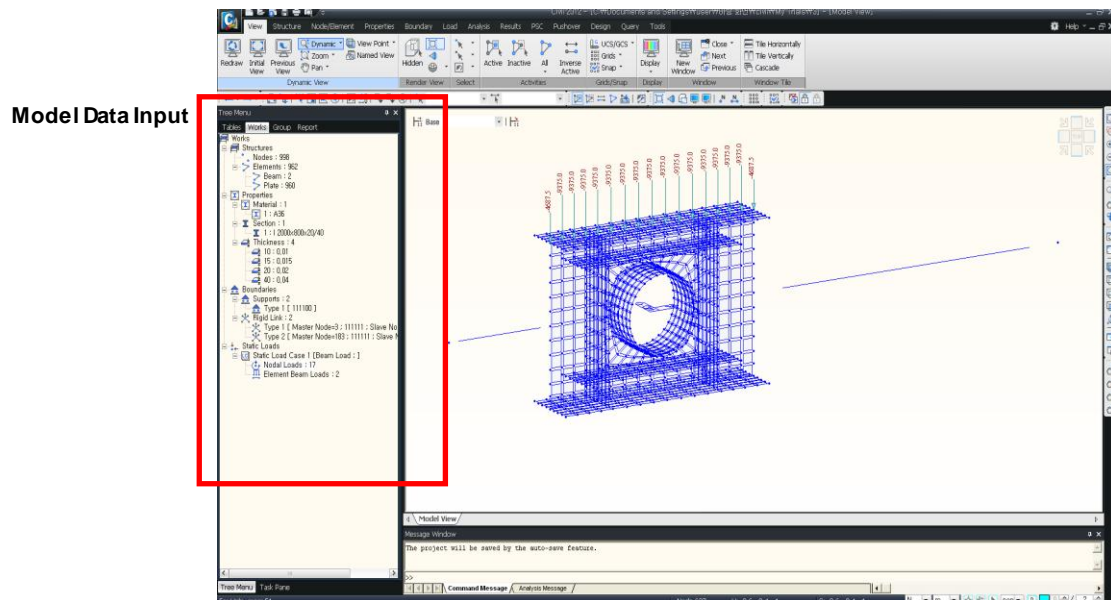

Figure 3.20 Complete Model
21. Confirm the Point Load similarly following the steps 17 to 19 (Fig. 3.20).
Fig.3.20 shows the screen display after checking the uniform distributed and point loads above using *Works Tree*.